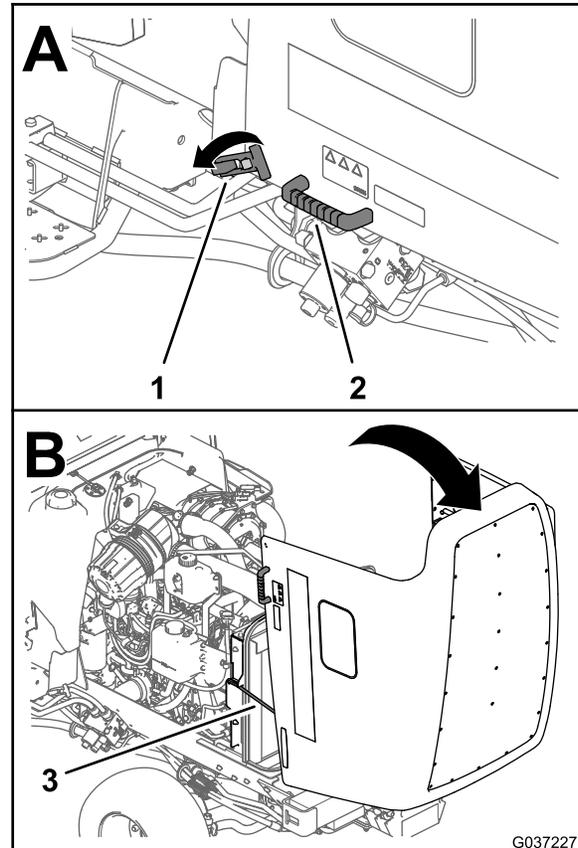

Figure 43
2. Release the 2 latches at the forward lower corners of the hood (Figure 43).
3. Using the handles that are adjacent to the latches, lift up and back the hood until the 2 prop rods are seated in the 2 rod brackets (Figure 43).